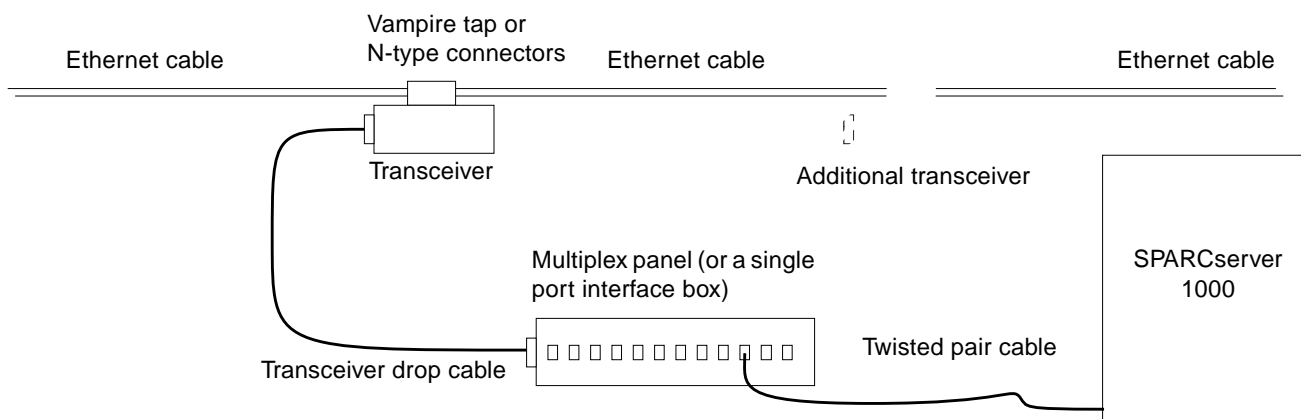

Figure 2-5 Connecting Twisted Pair Ethernet to N-type Coaxial Cable
- If the Ethernet cable lacks N-type connectors at the ends, use a “vampire” tap to connect the cable to the transceiver. See Figure 2-5. To connect the cable to the transceiver, use instructions provided with the vampire tap.
Figure 2-5 shows the elements used in the installation process.